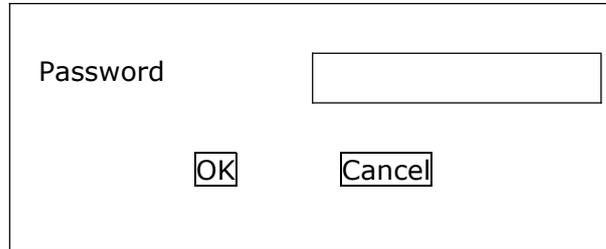

Figure 4-10
4. Thereafter, a dialog will appear as shown in Figure 4-10 every time the workstation is started. Enter the correct password and press "OK", before the instrument can start self-test.